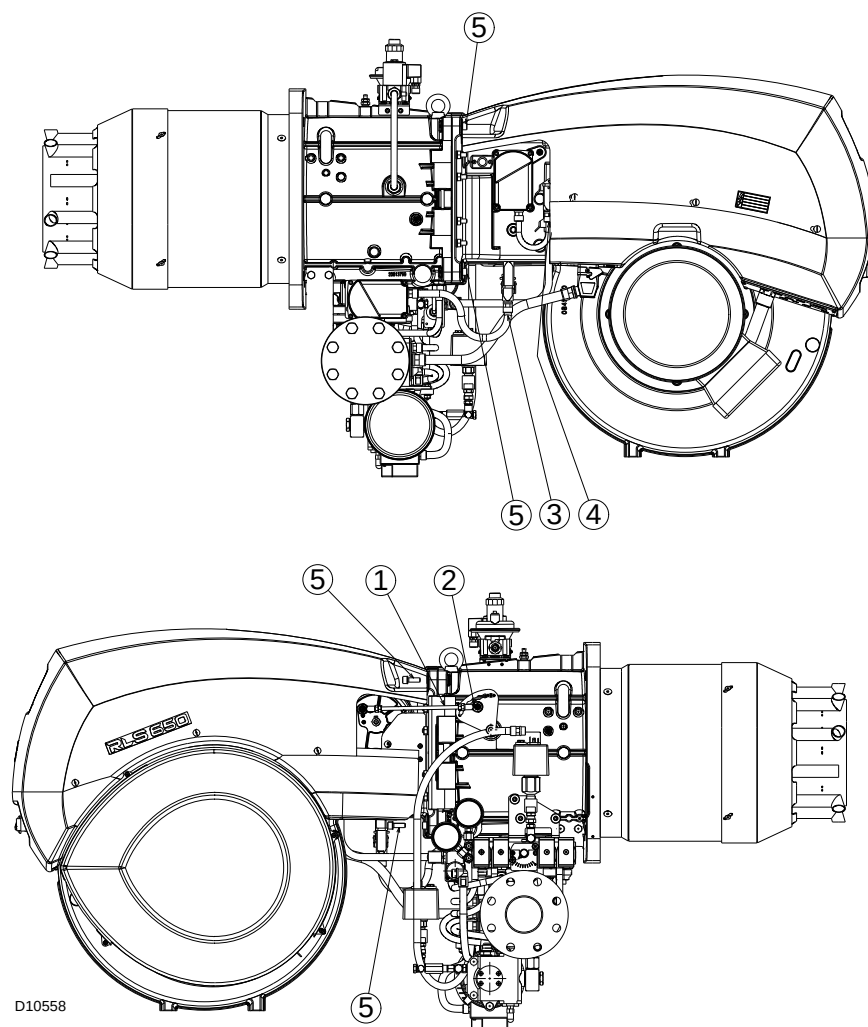

Fig. 45
- Remove the tie rod 1) (Fig. 45) of the head movement lever, loosening nut 2).